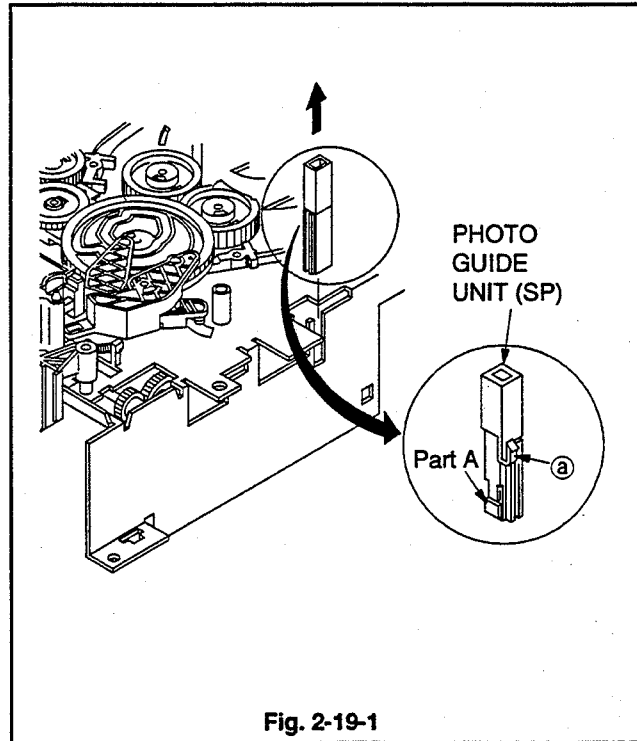

Fig. 2-19-1
1. Use tweezers to unfasten Catch (Ⓐ) of the PHOTO GUIDE UNIT (SP), shown in Fig. 2-19-1, and remove the PHOTO GUIDE UNIT (SP) in the direction shown by arrow.
2. Push the PHOTO GUIDE UNIT (SP) into the DECK so that the Catch (Ⓐ) is hooked, with the Part A shown in Fig. 2-19-1 toward the inside of DECK.